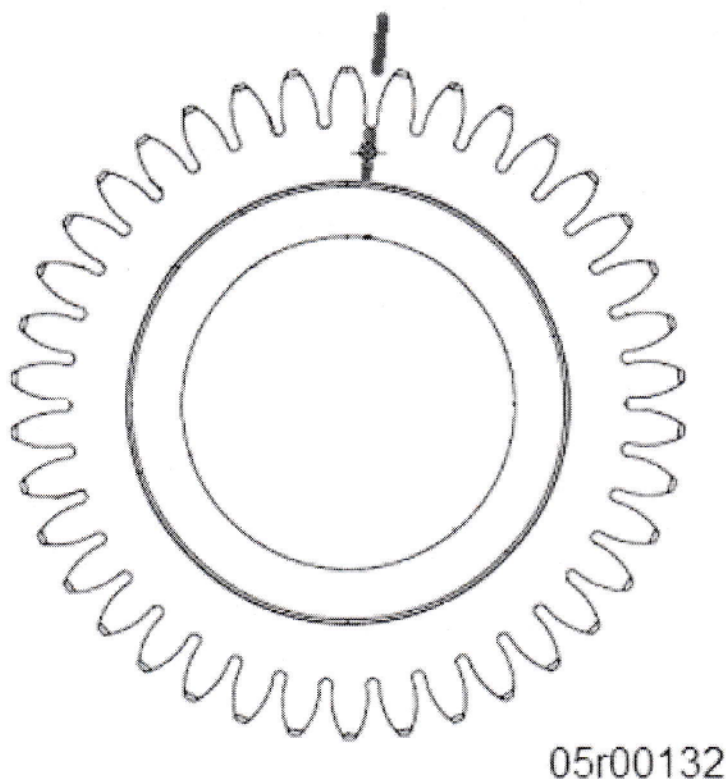

Figure 6, Align Marks on Fuel Pump Gear and Fuel Pump Housing.
- Rotate fuel pump gear until painted line over timing mark aligns with mark on fuel pump housing. See Figure 6 below.